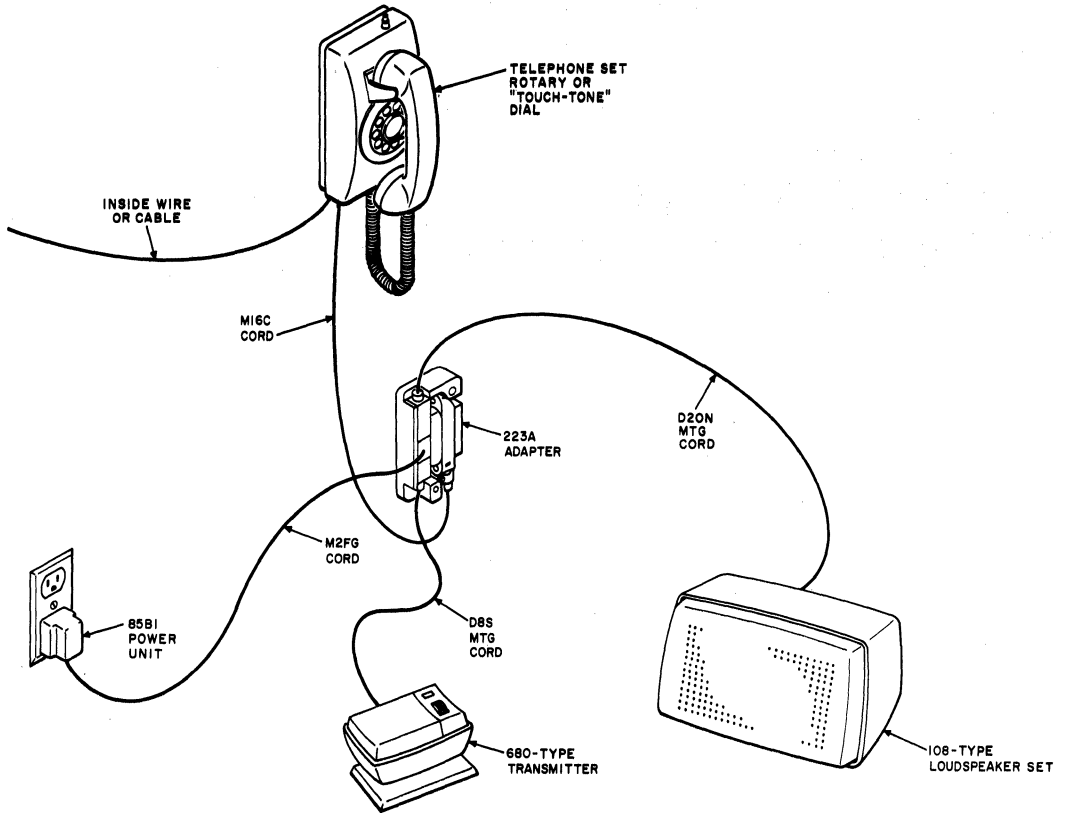

Fig. 1—Speakerphone Arrangement, 558- and 2558-Type Telephone Sets
**2.04** Power can be supplied by connecting 85B1 power unit as shown in Fig. 1, 2, 3, or 4.